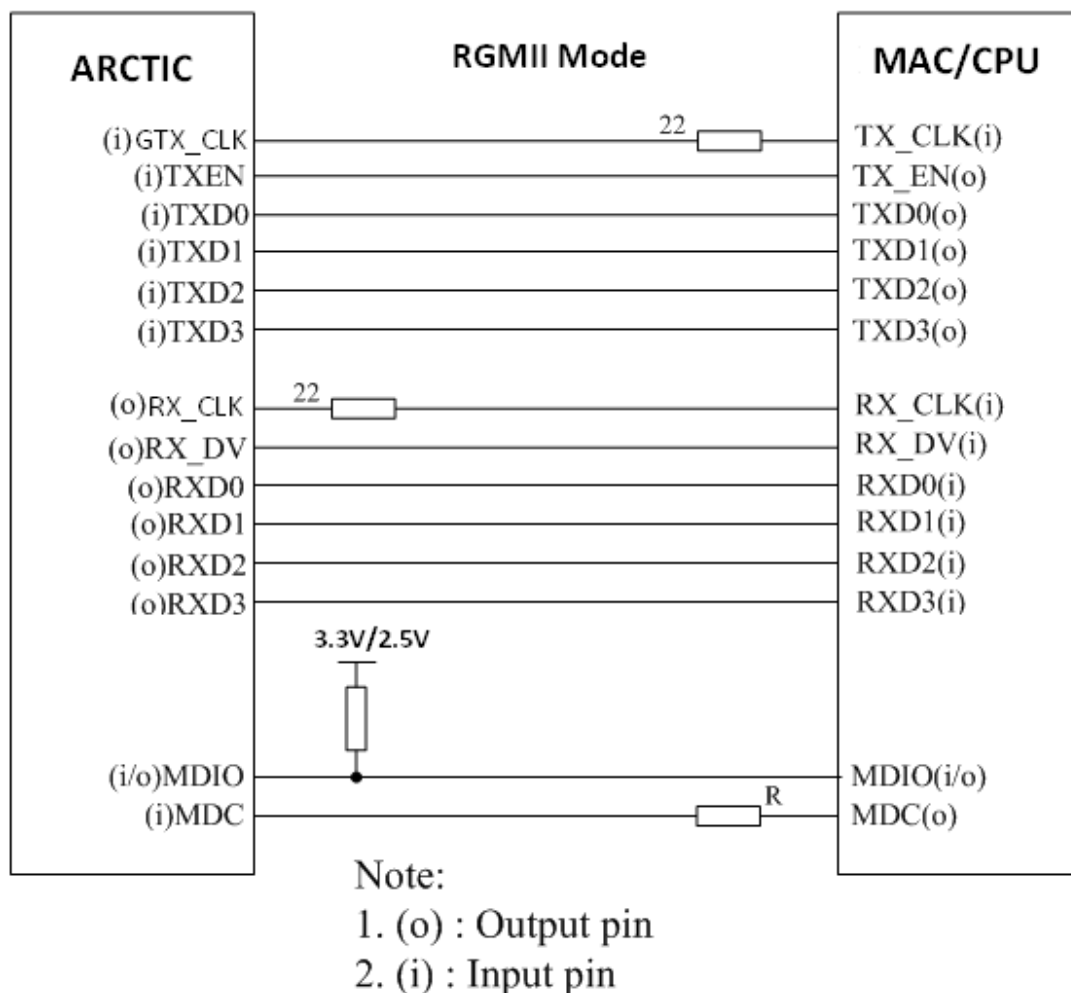

Figure11 RGMII interface
- Equal trace length (maximum tolerance of GTX_CLK, TXD[3:0] should be **100mils**, maximum tolerance of RX_CLK, RXD[3:0] should be **100mils**) and 45 degree or arc layout cornering are recommended. Do not route trace with 90 degree turns. *Figure 11* shows the trace routing rule.